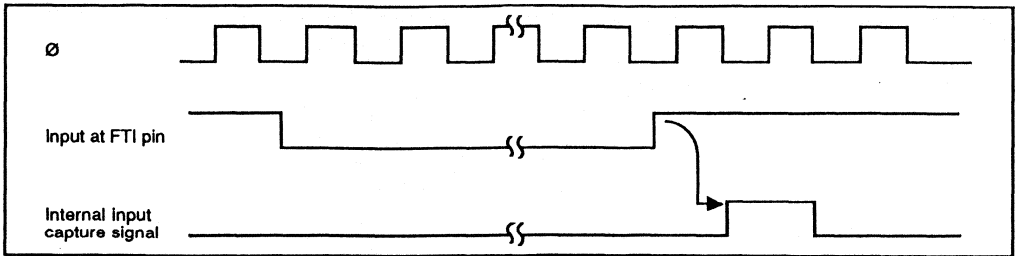

Figure 6-12. Input Capture Timing (Usual Case)
(1) Input Capture Timing: An internal input capture signal is generated from the rising or falling edge of the signal at the input capture pin FTIx (x = A, B, C, D), as selected by the corresponding IEDGx bit in TCR. Figure 6-12 shows the usual input capture timing when the rising edge is selected (IEDGx = "1").